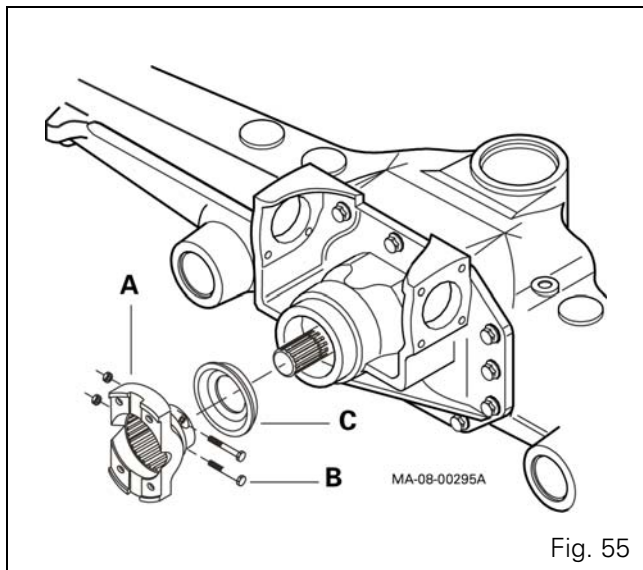

Fig. 55
- for suspended front axles: Fig. 55